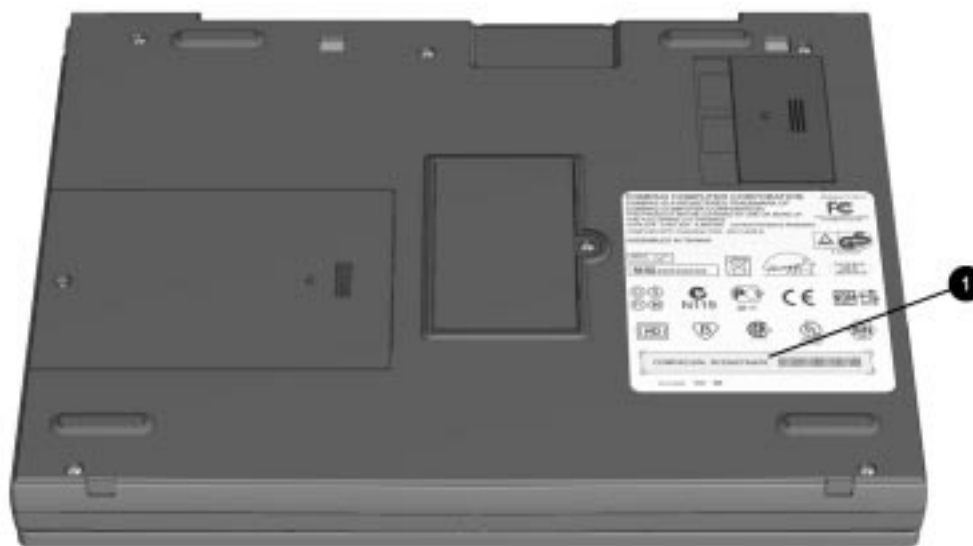

Figure 5-1. Serial Number Location
The computer serial number should be provided to Compaq support when requesting information or ordering spare parts. The serial number ❶ is located on the bottom of the computer (Figure 5-1).